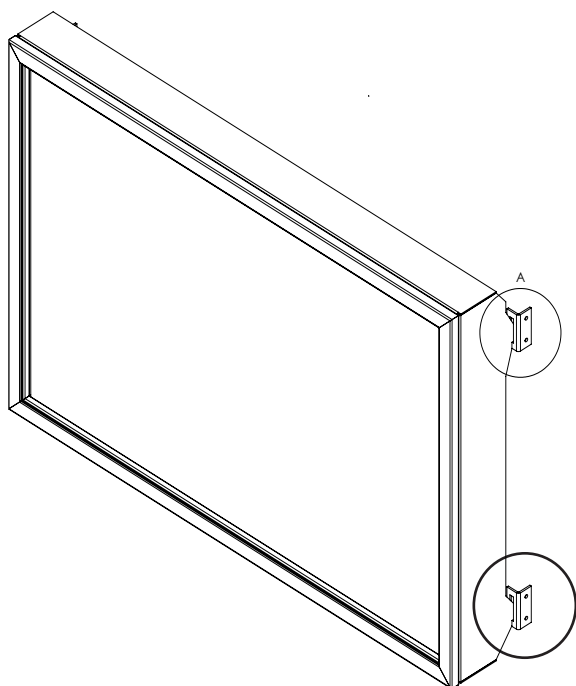

Figure 38: Installing Safety Screen onto Cabinet Bracket (Parts removed for clarity)
2. Lift the face upright in front of the fireplace with the four (4) hooks pointing towards the fireplace. Slide the hooks into the corresponding brackets on each side of the cabinet (see Figure 38). Ensure the hooks are secure before releasing the safety screen.